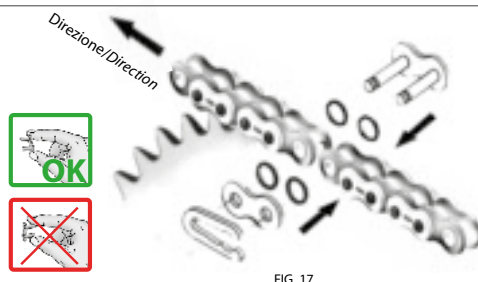

FIG. 17
7. Ensure that two O-Rings (D) have been assembled on the connecting link fork (A) (one on each pin) and fully inserted until they touch the plate.
8. Insert the connecting link fork (A) from the back of the chain, avoiding contact with the pins, as this could remove some grease.
9. Set the other two O-Rings (E) on the pins until they stay over the extended ends of each bushing. Then install the connecting plate (fig. 17).